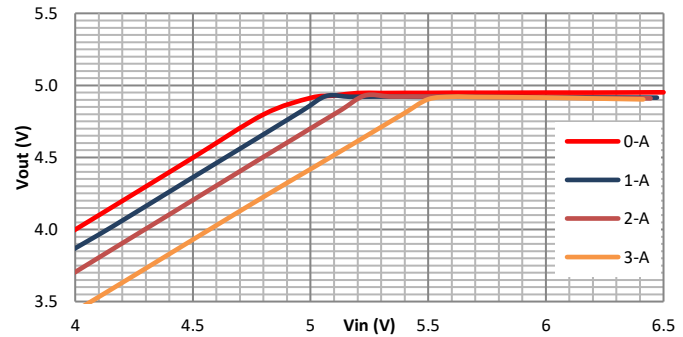

Figure 12. SCT2332 LDO Mode Waveform
An internal 1.5uA pull up current source connected from internal LDO power rail to EN pin guarantees that floating EN pin automatically enables the device. For the application requiring higher VIN UVLO voltage than the default setup, there is a 4uA hysteresis pull up current source on EN pin which configures the VIN UVLO voltage with an off-chip resistor divider R3 and R4, shown in Figure 12. The resistor divider R3 and R4 are calculated by equation (1) and (2).